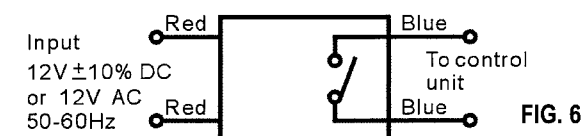

FIG. 6
- Take light and power cable through rubber grommet, then wire as per wiring diagram (See FIG 6 and FIG 7).